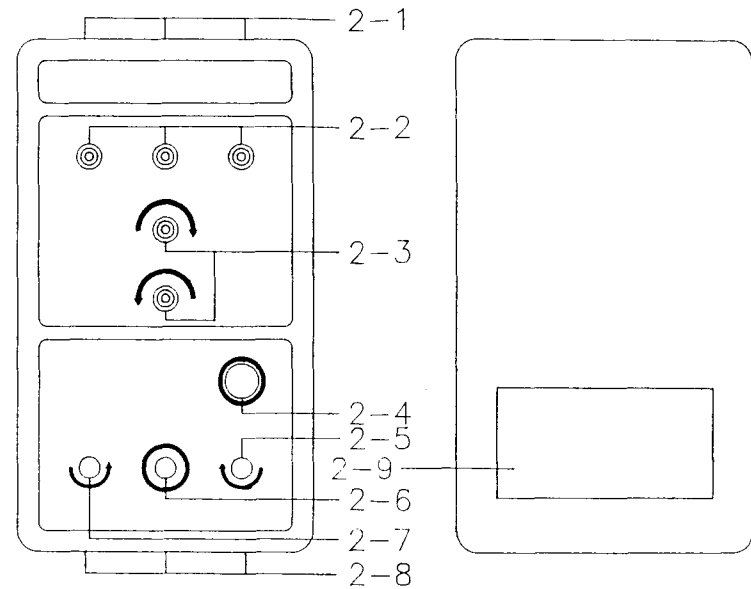

Fig. 1
- 1) Plug in the test leads into the " 3 phase rotation tester input terminal " (2-1, Fig. 1)
- 2) Plug in the test leads into the " Motor tester input terminals " (2-8, Fig. 1)
- 3) Connect the alligator clips of test leads to the motor power line (L1, L2, L3), and press the " Power button " (2-4, Fig. 1). The " Power indicator/green lamp " (2-6 Fig. 1) will light.
- 4) Rotating the motor shaft in **clockwise direction**, if red lamp of the " Clockwise indicator " (2-5, Fig. 1) light,
Rotating the motor shaft in **counter clockwise direction**, if red lamp of the " Counter clockwise indicator " (2-7, Fig. 1) light,
- 2) It is necessary to replace battery when the " Power Indicator/Green Lamp " (2-6, Fig. 1) is under faint light.
- 3) Open the " Battery cover " (2-9, Fig. 1) by tool.